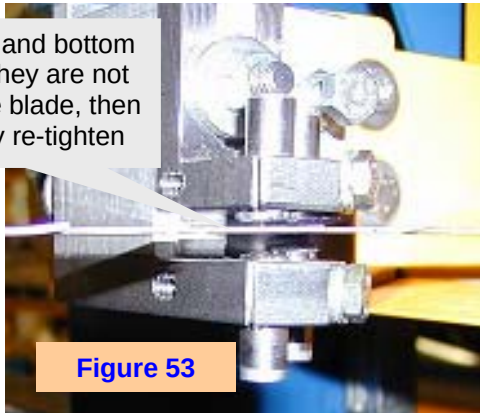

Figure 53
- ☐ Open the cowling doors and rotate the wheels counter clockwise to (A) ensure proper tracking and (B) to put the weld of the blade at the top and centered between the wheels. This will ensure the bullets are set to a flat part of the blade.
- ☐ Start by loosening the 1/4" bolts holding the bottom bullet guides and drop the bullets downward then re-snug them so they don't fall out (see **Figure 53** on next page).